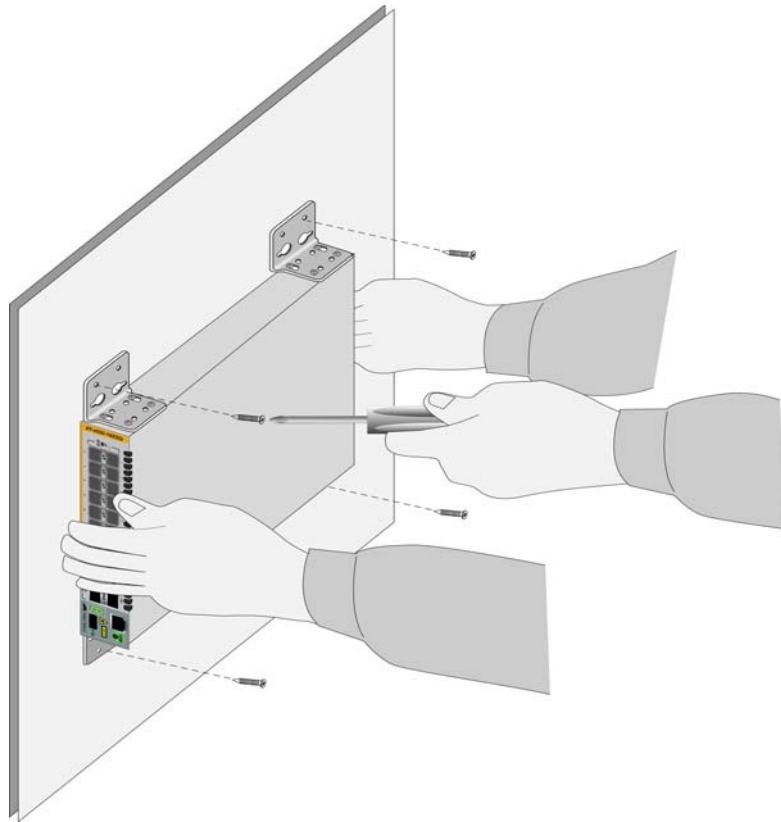

Figure 39. Installing the Switch on a Concrete Wall
7. Have another person hold the switch at the selected wall location while you secure it to the wall with the four M4x32mm provided screws. Refer to Figure 39 on page 83.